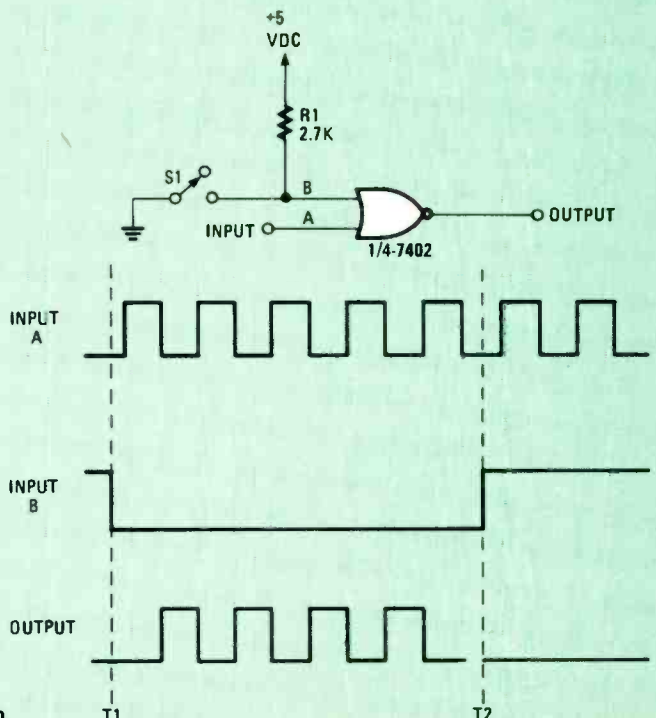

Fig. 2—Spare NOR gates make great switches, but like all gates they can only accept input from one direction.
While bipolar transistors are basically current amplifiers, FET's are basically voltage amplifiers. The elements of an FET are shown in Fig. 2. The same N- and P-type material we saw in the bipolar transistor is present here as well, but that's where the similarity ends. In the FET shown in the illustra-
Fig. 2—A JFET is composed of the same kinds of materials as a bipolar transistor, but their arrangement is different. Note that the gate is composed of two P-type regions.
Figure 2 shows the use of the NOR gate for electronic
In considering both the circuits in Figs. 2 and 3, you can probably see that NOR gates and NAND gates can act as inverters. Figure 4 shows the various configurations that will make a NAND or NOR gate act like inverters.
Fig. 2—Any 300:75-ohm transformer can be used to impedance match the TV antenna to the cable. Be sure the 300-ohm side faces the antenna and the 75-ohm side faces the TV.
The simple TV antenna shown in Fig. 2, uses two 18-inch wide foils each 42 inches long. The antenna resonates at just over 60 megahertz, (each foil a quarter wavelength). It has a
Fig. 2—The two simplest op-amp configurations are the inverting (A) and the non-inverting (B). Resistor R3 is needed only if C1 is used in the non-inverting circuit.
The ratio of resistors R1 and R2 in Fig. 2 determines the circuit's voltage gain. (That is called closed-loop gain, and it can never be more than the open-loop gain of the op-amp—more on that later). The formulas used to determine the gain are:
Op-amps were originally designed to amplify and process DC signals in computing circuitry. Over the years op-amp designs have evolved and now include devices that work well into the RF region. Those new designs, however, still retain their ability to amplify DC signals. The internal circuitry in the op-amp is all direct-coupled. If your need is only to amplify the AC (when we talk about AC signals here we are referring to audio signals—20 to 20,000 Hz) portion of the signal, coupling capacitors should be used on the input and output. Figure 2 shows those optional coupling capacitors.